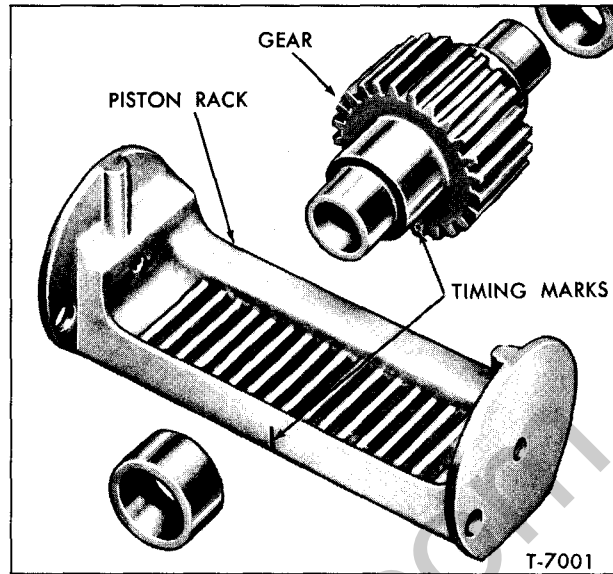

Figure 29—Gear-to-Piston Rack Timing Marks
8. Note position of alignment marks on gear and piston rack (fig. 29). Mark on gear is on rear side of gear tooth. Mark on rack is cast in rack at center line. Remove gear assembly, noting locations of thick and thin bearings.
- NOTE: Install gear and bearings into body. Make sure alignment marks on gear and rack are aligned (fig. 29).